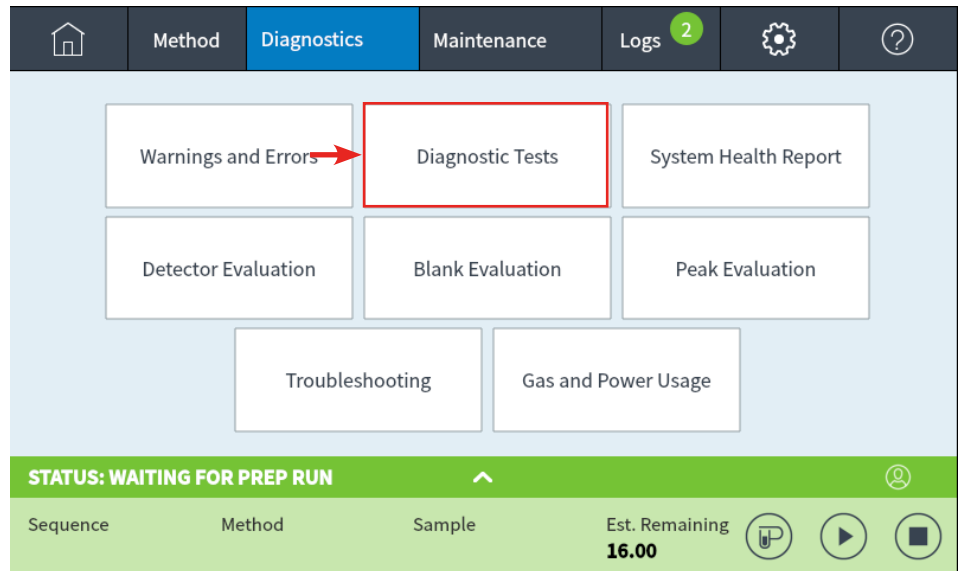

Figure 5. Generating a Diagnostic trend plot from the touch screen interface: location of Diagnostic Tests.
- For a diagnostic trend plot, click **Diagnostic Tests > Diagnostic Trend Plot** (Figures 5 and 6).